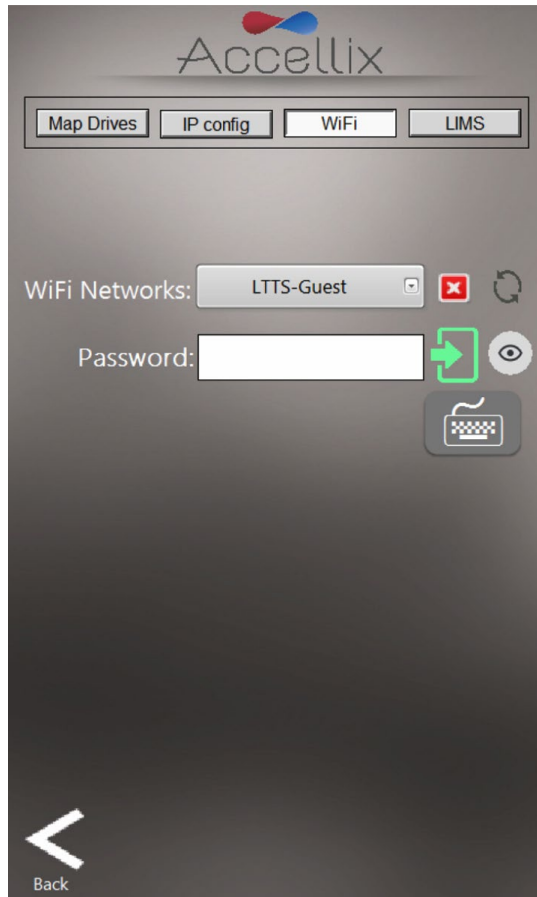

Figure 28: Network Screen: Wi-Fi tab
3. The Wi-Fi tab (Figure 28) is used to connect to a Wi-Fi network. To connect: